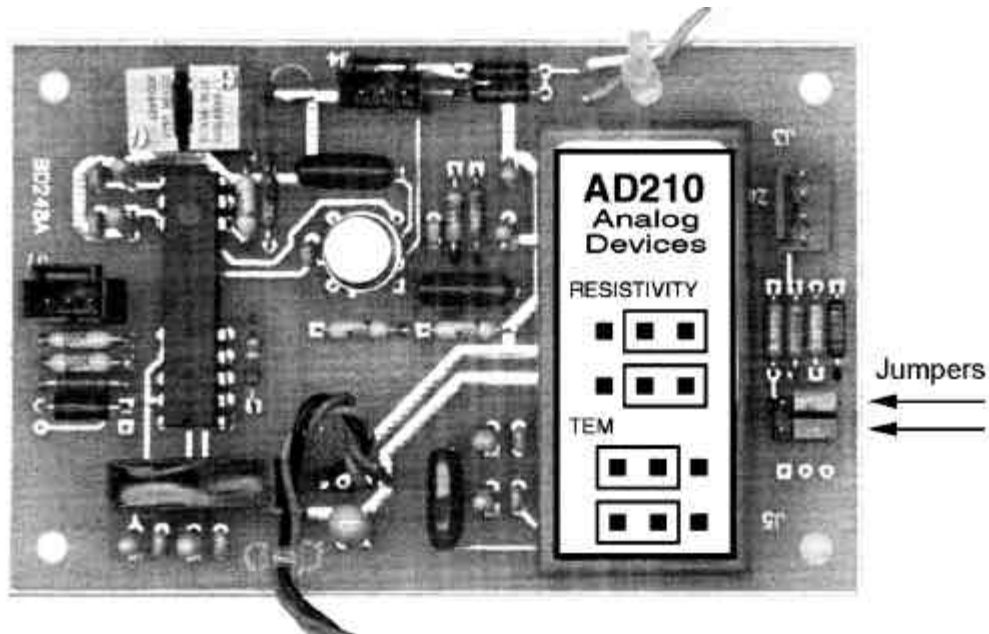

Figure 2 Setup jumpers on Board 248
There are two settings for Board 248 (figure 2). TEM operation is for high current, and RESISTIVITY operation is for high voltage. Refer to the diagram on top of the AD-210 isoamp for jumper settings.
- D) Check against the picture in the manual to ensure it is wired correctly (figure 2).